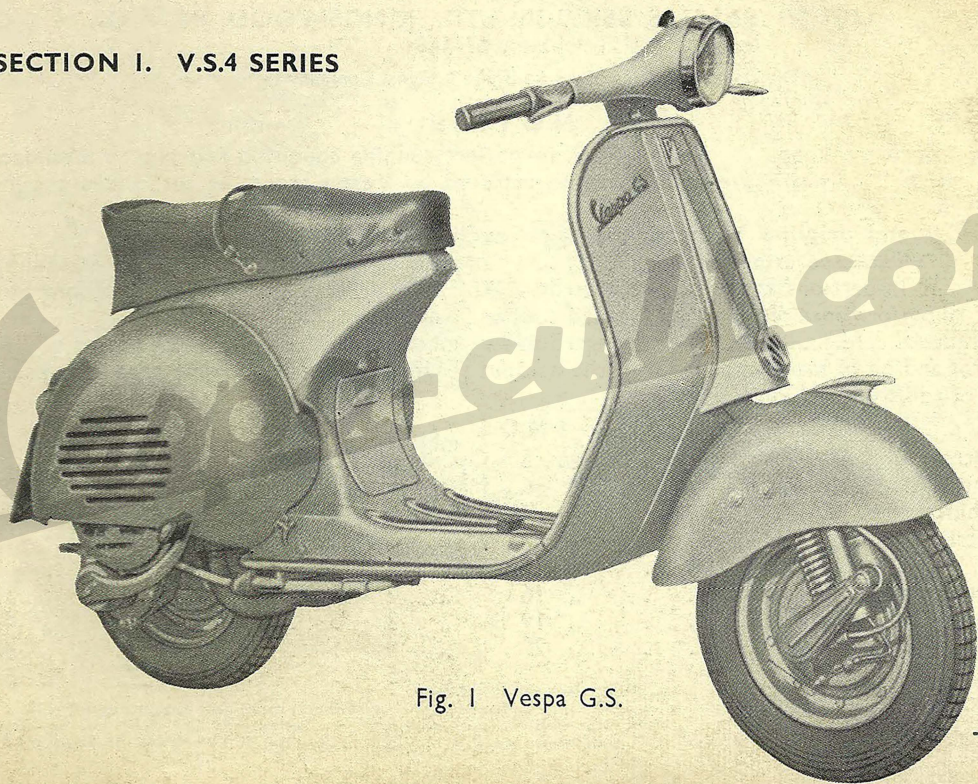

Fig. 1 Vespa G.S.
**Stressed skin body** of pressed steel sheet, with streamlined, monocoque type structure (see Fig. 1). It gives full protection to the driver, to the passenger and to the machine units; it is completed in this function by the